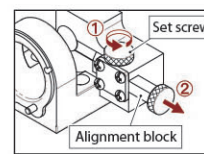
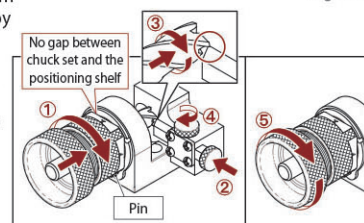
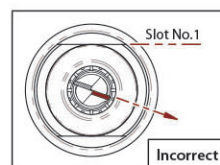

Fig. 3-1
Fig. 3-2
Fig. 3-3
1. Preset the position of the alignment block. (Fig. 3-1)
- ① Loosen the set screw by counterclockwise.
- ② Pull out the alignment block to the end.
2. End mill positioning (Fig. 3-2) :
- ① Align Slot No.1 of the clamping nut to the pin on the positioning shelf, insert the chuck set into the positioning shelf and fit them with no gaps, then turn the chuck set clockwise until it stops by the pin.
- ② Slowly move the alignment block inward.
- ③ Push the end mill to the end and slowly turn it clockwise until the outer corner of the end mill's longer cutting edge touches the tip of the alignment block.
- ④ Turn the set screw clockwise to lock the alignment block.
- ⑤ Tighten the chuck set to secure the end mill.
3. Gently turn the chuck set counterclockwise and take it out, make sure the end mill's longer cutting edge is parallel to the Slot No.1 of clamping nut (See Fig. 3-3).
- ✳ If the end mill's longer cutting edge is angled away from the Slot No.1 of clamping nut (Fig. 3-3), change to the alignment block with a notch on the front, insert with the notch facing up (Fig. 3-4), then reposition the end mill.